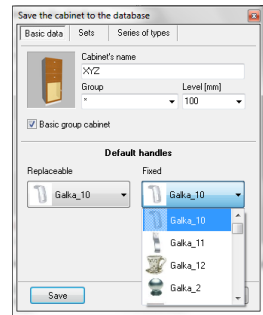

Fig. 196 – entering basic data
- in the new window (**Save the cabinet to the database**) you can enter basic data about a cabinet (name, group, insertion level) and assign it to a basic cabinet group or choose handles' type (**Basic data** tab – Fig. 196);